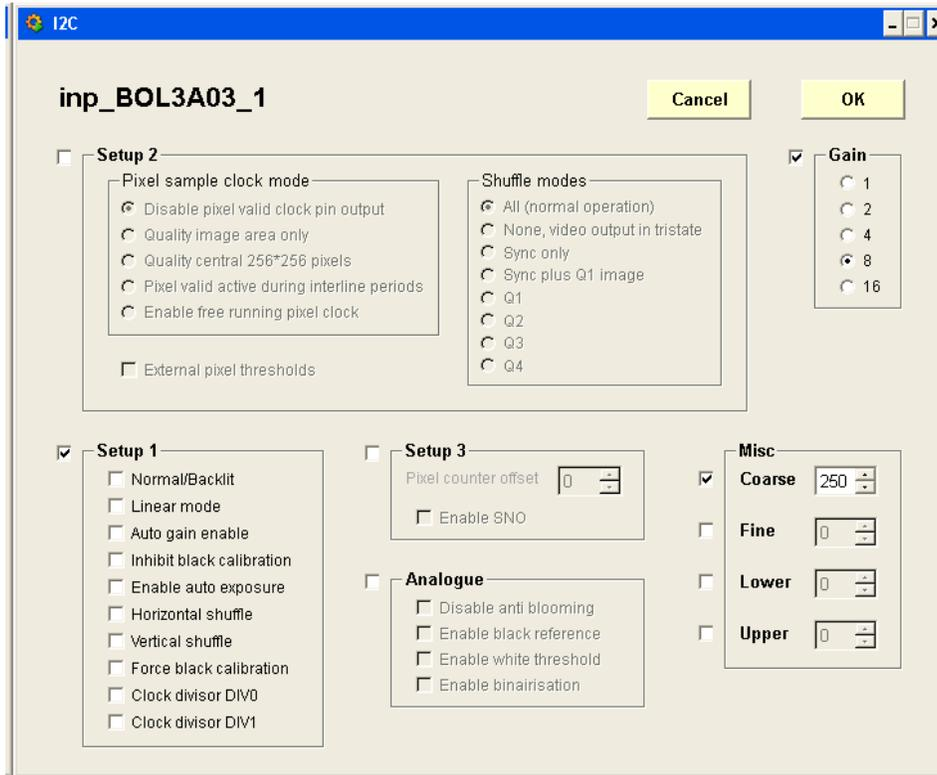

Figure 2.10: I²C camera settings
13. *I²C*: The camera contains a lot of optical settings, managed by the I²C electronics bus. Figure 2.10 shows the possible settings.